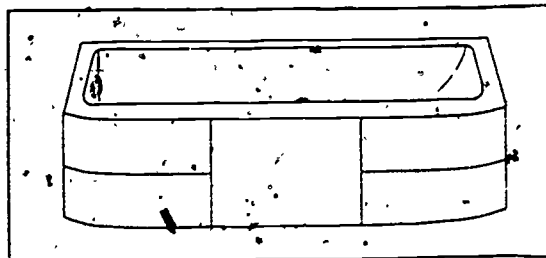

Figure 2-19. Built-in bathtub.
**Types of bathtubs.** There are several types of bathtubs on the market today. Some of them are the recessed, corner-recessed, sunken, and the leg type. Tubs are made in several sizes, ranging from 4 to 6 feet in length, and are designated as right- or left-hand tubs, depending on the location of the drain. When you face the tub, if the drain is on the right end, it is a right-hand tub; if it is on the left end, it is a left-hand tub. Most bathtubs today are made of enameled cast iron or enameled pressed steel. The design most commonly used is the built-in type, shown in figure 2-19.